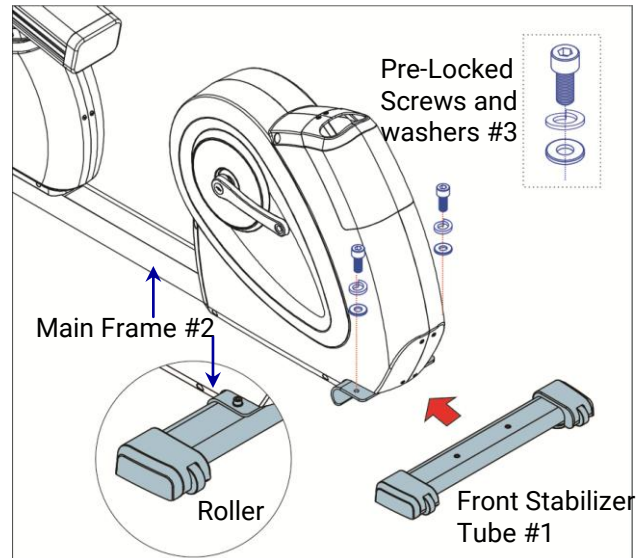

Fig 2.5-1A
- 1) Unscrew the (2) **Pre-Locked Screws And Washers** on the **Front and Back Stabilizer Tubes #1 & #3**.
- 2) Attach the **Front Stabilizer Tube #1** to **Main Frame #2** by using (2) **Pre-locked screws and washers #3** with the provided 6mm Allen wrench. (Fig 2.5-1A)